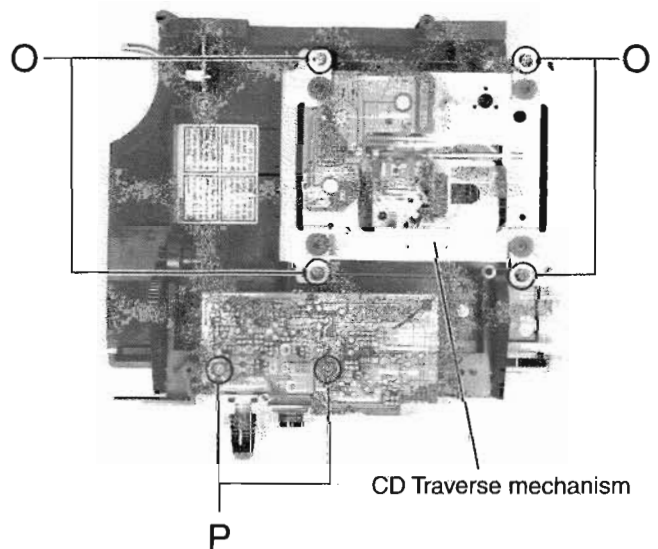

Fig.12
■ CD Traverse mechanism removal (See Fig.12)